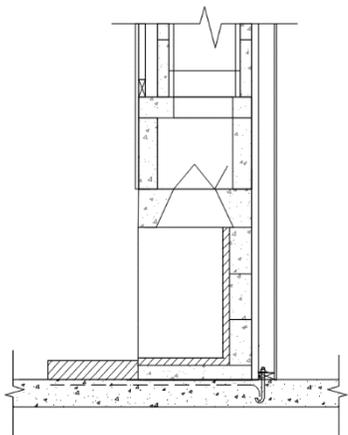

FIGURE 5
1. Slab on grade: standard residential, minimum four inch (4") thick, 2500 psi concrete foundation on properly compacted fill. This type of foundation can support Isokern installations up to thirty feet (30')\* overall height without additional structural support. (brick ledge installations not included) **(Figure 5)**